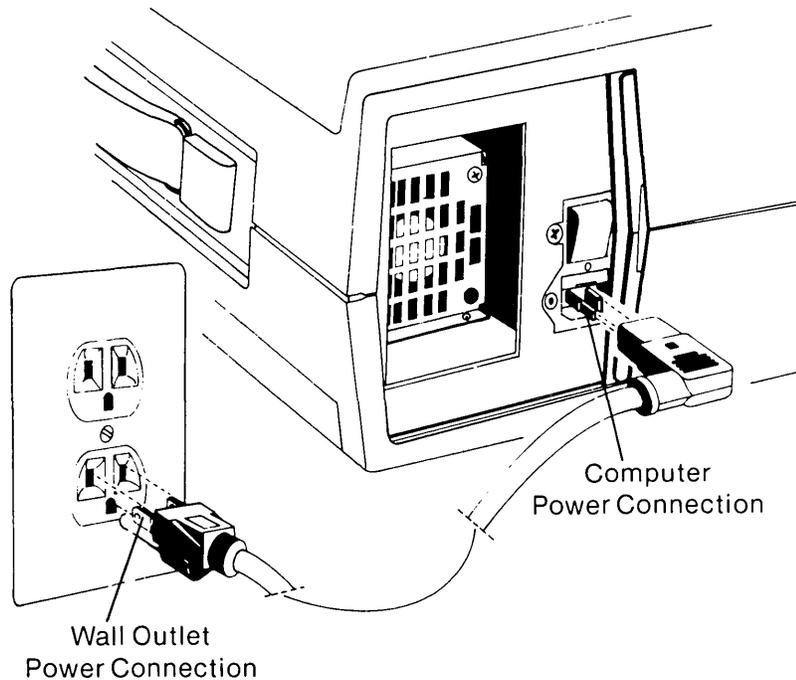

Figure 11-1. Disconnecting the Power Cord From the Computer.
Before removing the COMPAQ Computer's case, set the ON/OFF switch to the OFF position and disconnect the power cord from the computer (see Figure 11-1).
3. Unplug the computer and any options from their power sources (previously shown in Figure 11-1).